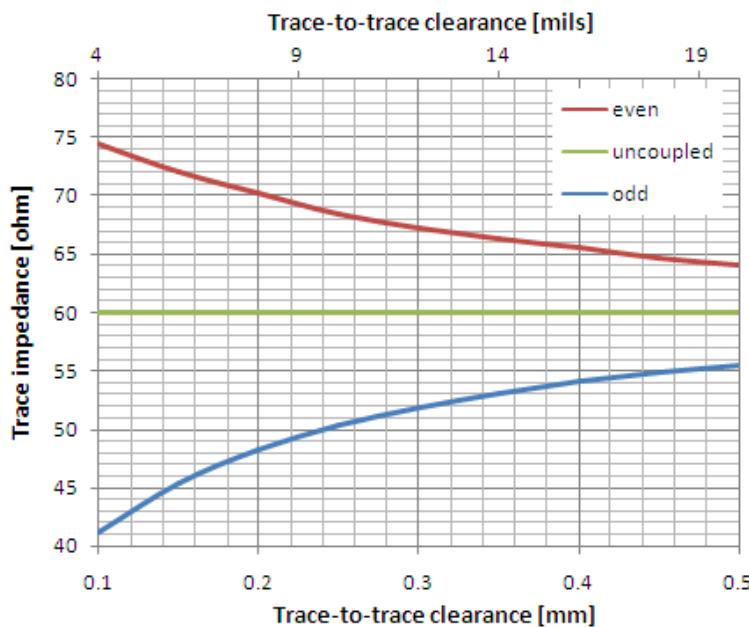

Fig. 4.13 Impedance variation caused by coupling between bus traces
- **Impedance variations:** when two traces are routed in parallel for a long distance they will be electromagnetically coupled through a mutual inductance and a mutual capacitance. When two signals travel in the same direction through those lines (both signals switch from 0 to 1 or from 1 to 0), the coupling will modify the characteristic impedance of each trace to the even mode impedance, which is larger than the un-coupled characteristic impedance. When two signals travel in opposite directions through those lines (one signal switches from 0 to 1 and the other from 1 to 0), the coupling will modify the characteristic impedance of each trace to the odd mode impedance, which is smaller than the un-coupled characteristic impedance. As a result, the impedance of each trace will not be constant in time but will vary according to the switching of the adjacent signals. This impedance variation gets larger as the traces are more closely spaced and will cause signal reflections due to discontinuities. Figure 4.13 illustrates the impedance variation of two 60 [Ω] microstrip traces with their clearance. In order to minimize the reflection noise caused by impedance variation the bus clearance should be as large as practical.